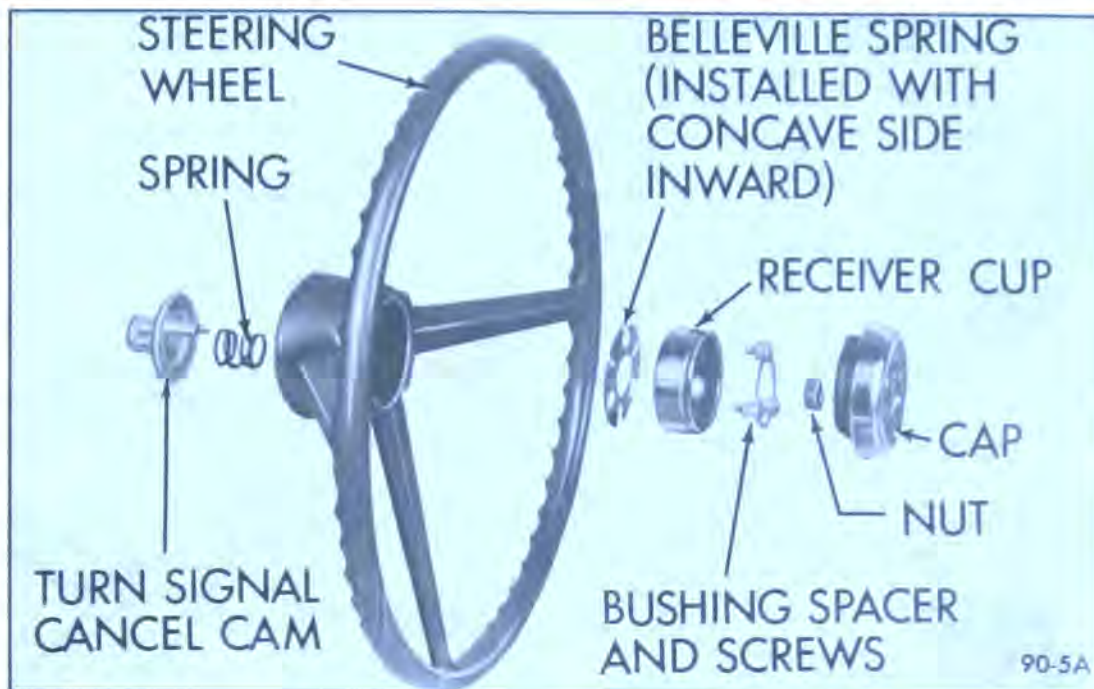

Figure 90-82 Horn Actuator Cap Installation (43-44000 Series)
2. On 43000 and 44000 Series cars with standard steering wheel pry off cap, remove 3 Phillips head screws and take off bushing spacer, receiver cup and Belleville spring (see Figure 90-82).